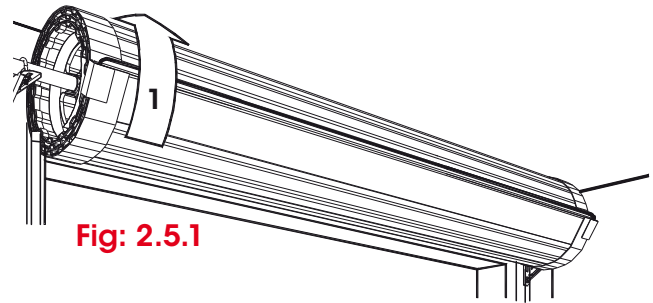

Fig: 2.5.1
- a) Ensure that the bottom rail and axle is turned as one to the position shown in **Fig 2.5.1**.
1. Rotate the door 1½ turns in a forward direction to apply tension. Do not let go as the springs are now tensioned. See arrow in **Fig 2.5.1**.